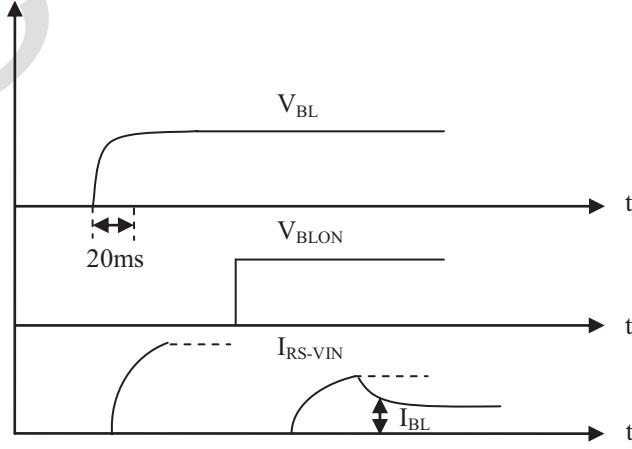

Fig. 3.4 The timing sequence diagram of inrush current measurement
- (1) Dimming ratio = 100% (Max.) ($T_A = 25 \pm 5^\circ\text{C}$, Turn on for 45minutes).
- (2) The measurement condition: V_{BL} rising time is 20 ms. (V_{BL} from 10% ~ 90%), the sequence diagram is shown as Fig.3.4.
- (3) Less than 5% dimming control is functional well and no backlight happens to shut down.
- (4) Normal: 0 ~ 0.8V; Abnormal: Open collector.